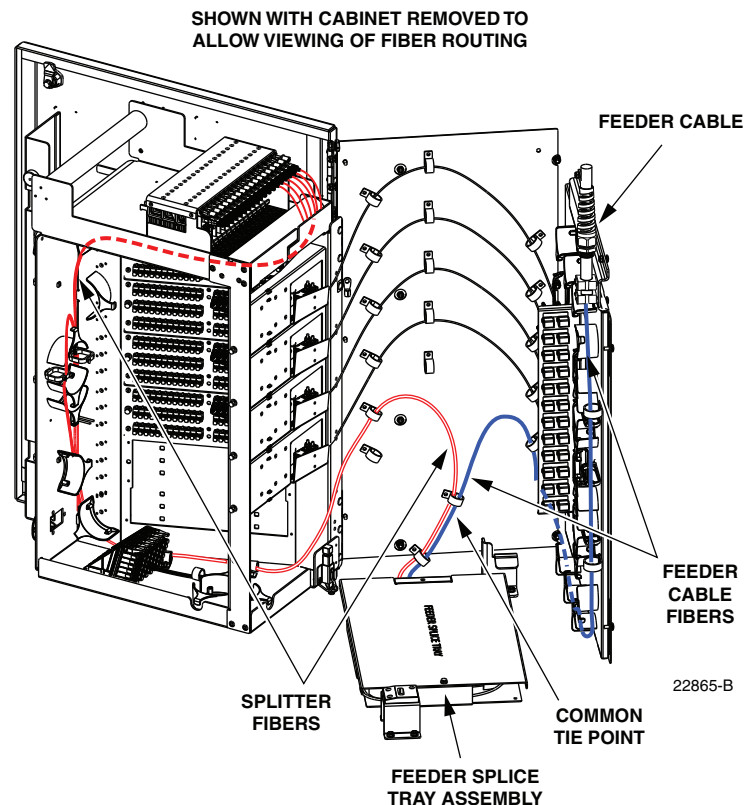

**Figure 24. Feeder Splice Tray Replacement**
12. To replace the splice tray, route the attached tubes around the splice tray holder radius limiters (there should be two service loops) as shown in Figure 24. Avoid twisting or kinking the fiber tubes. Maintain a 1.5-inch (3.81 cm) minimum bend radius for all non reduced bend radius fiber.
12. To replace the splice tray, route the attached subunits (there should be two service loops) around the splice tray holder radius limiters (see Figure 24). Avoid twisting or kinking the fiber subunit tubes. Maintain a 1.5-inch (3.81 cm) minimum bend radius for all non reduced bend radius fiber.